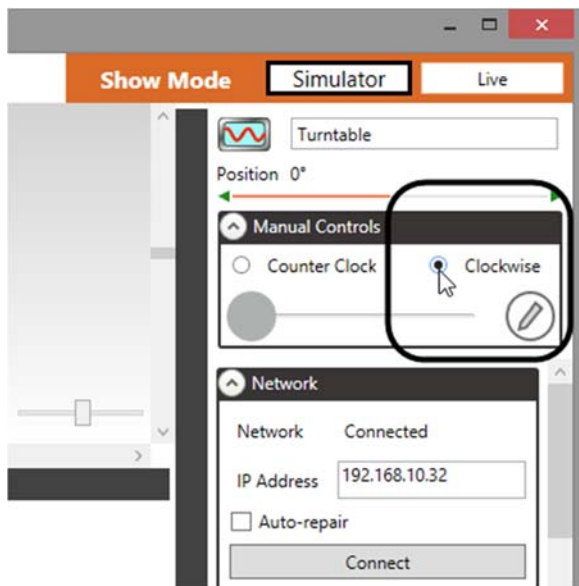

Figure 41
- With the *Turntable* selected, we are going to run it clockwise until it is pointing downstage. Click on the **Clockwise** radio button in the **Manual Controls** section of the **Stagehand Editor** (Figure 41).